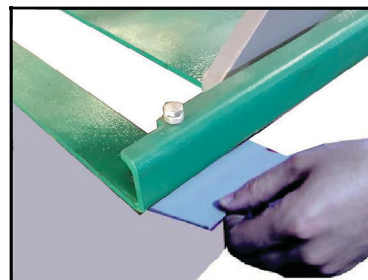

fig.15
5. Insert metal shims under the platform to level the deck horizontally. fig.15